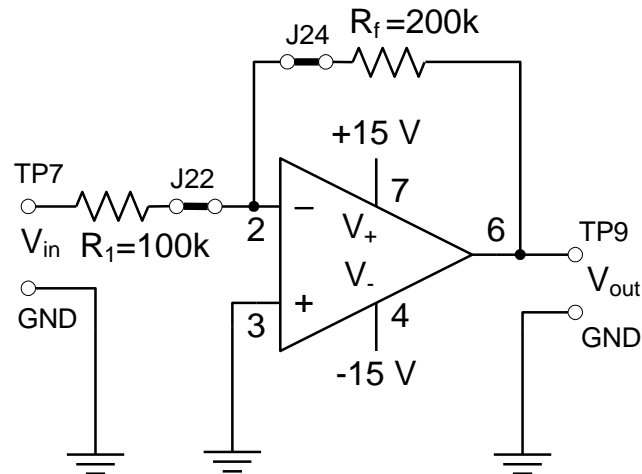

Figure 3 – Inverting Amplifier Schematic Diagram
3. Insert jumpers J22 and J24 to construct an inverting amplifier circuit shown in Figure 3.